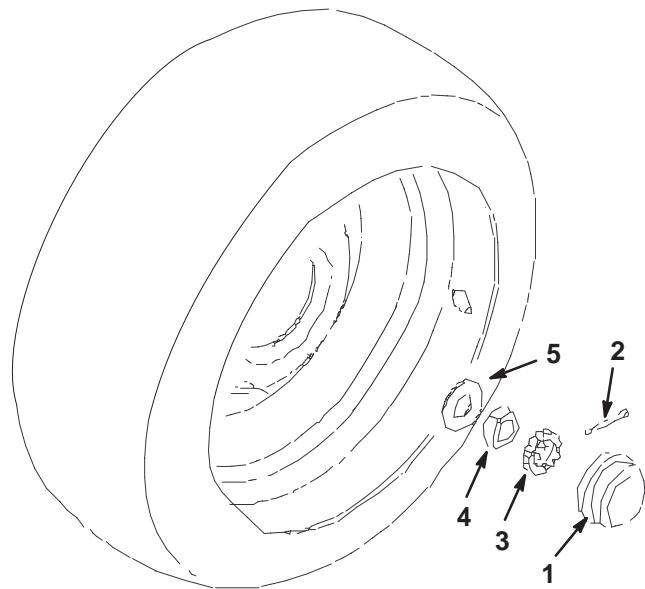

Figure 65
2. Remove dust cap from end of wheel spindle. Also remove cotter pin securing retainer (Fig. 65).
3. Tighten the jam nut (Fig. 65) to approximately 75–100 in-lbs using a hand wrench.